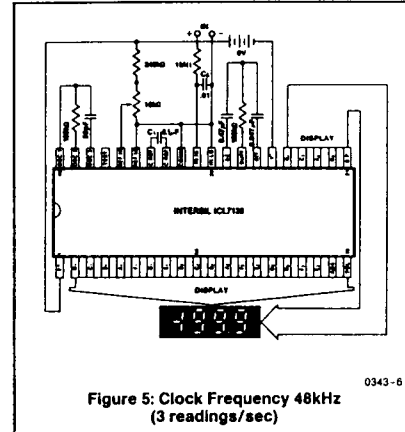

Figure 5: Clock Frequency 48kHz (3 readings/sec)
- 48kHz oscillator, Figure 5, increases current by 20 $\mu A$  (typ).